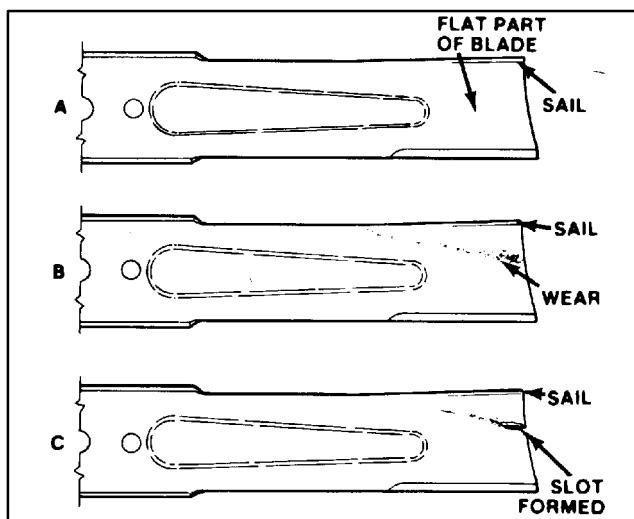

Figure 27
(Fig. 27 – 28)
2. Examine cutting ends of the blade carefully, especially where the flat and curved parts of the blade meet (Fig. 27-A). Since sand and abrasive material can wear away the metal that connects the flat and curved parts of the blade, check the blade before using the machine. If wear is noticed (Fig. 27-B), replace the blade: refer to Removing Cutter Blade.
If blade is allowed to wear, a slot will form between the sail and flat part of the blade (Fig. 27-C). Eventually a piece of the blade may break off and be thrown from under the housing, possibly resulting in serious injury to yourself or bystander.